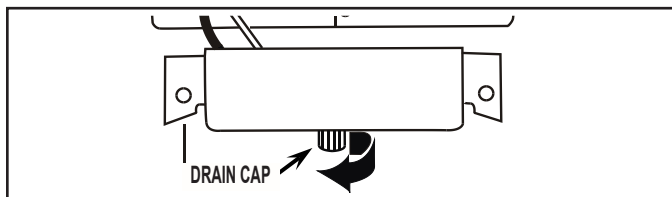

FIGURE 1
4. Unscrew the drain cap from the bottom of the water pan located inside the storage bin. Allow water to drain completely. Replace drain cap. See *Figure 1*.